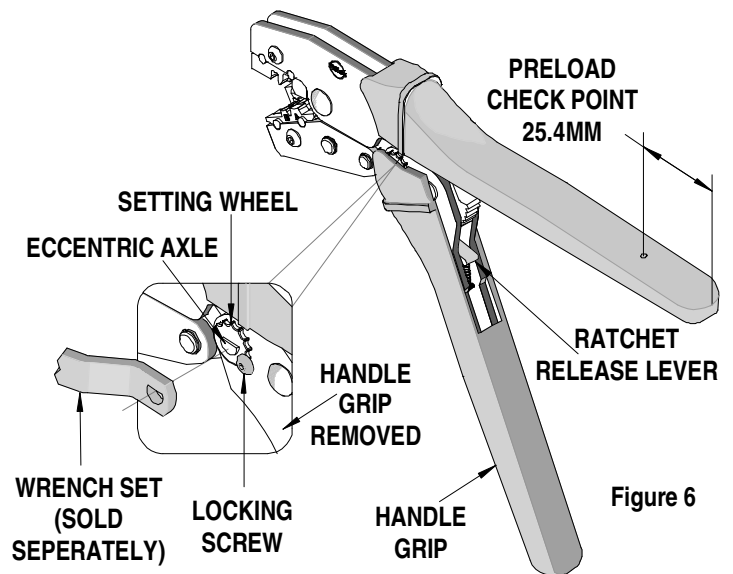

Figure 6
3. Make certain all pins; pivot points and bearing surfaces are protected with a thin coat of high quality machine oil. Do not oil excessively. The 63811-3300 was engineered for durability but like any fine piece of equipment it needs cleaning and lubrication for a maximum service life of trouble free crimping. Light oil such as 30 weights automotive oil used at the oil points shown in Figure 6, every 5,000 crimps or 3 months, will significantly enhance the tool life.
Should this tool ever become stuck or jammed in a partially closed position, **Do Not force the handles open or closed.** The tool will open easily by pressing the ratchet release lever (See Figure 6).
### How To Adjust Tool Preload (See Figure 6)